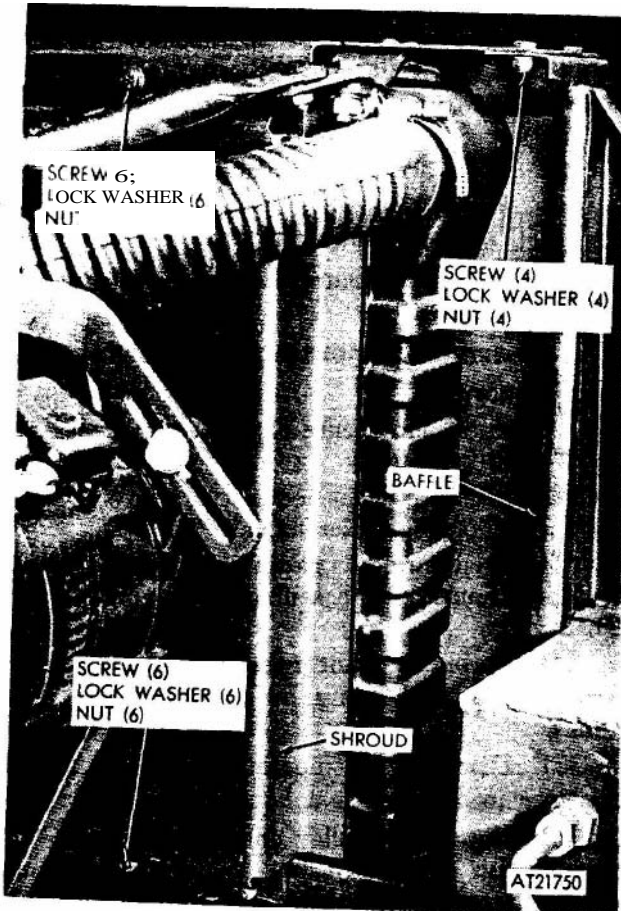

Figure 2-98. Radiator shroud.
(8) Remove surge tank from right-hand baffle by removing three bolts and nuts.
(9) Remove left-hand support by removing screws, washers, and nuts securing support to crossmember bracket, engine, lifting eye, and alternator strap, and remove strut from support by removing screw, lock washer, and nut.
(10) Remove crossmember by loosening six screws securing crossmember to shroud, removing four screws, lock washers, and nuts securing top of baffles to crossmember, and four screws, lock washers, and nuts securing tabs on baffles and crossmember (fig 2-98).
(11) Remove baffles by removing four screws, lock washers, and nuts securing baffles to radiator lower support.
(12) Remove radiator from vehicle. Remove plug, and elbow and nipple from radiator. Submit radiator for disposition.
(13) Remove shroud assembly by loosening six screws securing shroud to bottom support and crossmember assembly.
(2) Assemble right- and left-hand shrouds with two shroud crossmembers and four screws, lock washers, and nuts. Hand-tighten nuts.
(3) Install shroud assembly on bottom support and crossmember assembly by sliding slots in shroud behind washers and screws (fig 2-98).
(4) Wrap threads of radiator plug with teflon tape and install plug in bottom of radiator. Apply thread sealant to radiator nipple and elbow, insert in radiator and tighten.
(5) Position radiator in bottom support and crossmember assembly. Ensure that radiator is properly seated on isolators and seal on support.
(6) Attach right- and left-hand baffles to top crossmember with four screws, lock washers, and nuts, and with four screws, lock washers, and nuts securing tabs on baffles and crossmember.
(7) Position crossmember with attached baffles over radiator. Ensure that slots in shrouds are behind washers and screws.
(8) Secure crossmember and baffles to bottom supports with four screws, lock washers, and nuts.
(9) Position shroud until a clearance of 1 / 8-5 / 16-inch clearance exists between fan tips and shroud assembly. When clearance is established tighten six screws on each crossmember.
(10) Attach left-hand support to crossmember and engine with two screws, lock washers, and nuts.
(11) Attach surge tank to right-hand baffle with three bolts and nuts.